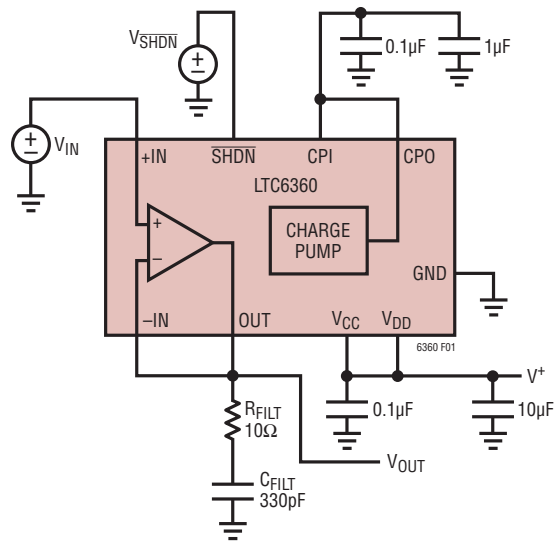

Figure 1. Test Circuit
**ELECTRICAL CHARACTERISTICS** The ● denotes the specifications which apply over the full operating temperature range, otherwise specifications are at  $T_A = 25^\circ\text{C}$ . Unless noted otherwise,  $V_{CC} = V_{DD} = 5\text{V}$ ,  $V_{+IN} = 2\text{V}$ ,  $V_{SHDN} = 5\text{V}$ . See Figure 1 for circuit configuration.
## TYPICAL PERFORMANCE CHARACTERISTICS $T_A = 25^{\circ}\text{C}$ , $V_{\text{CC}} = V_{\text{DD}} = 5\text{V}$ , $V_{+\text{IN}} = 2\text{V}$ , $V_{\text{SHDN}} = 5\text{V}$ , see Figure 1 for circuit configuration.
## TYPICAL PERFORMANCE CHARACTERISTICS $T_A = 25^\circ\text{C}$ , $V_{CC} = V_{DD} = 5\text{V}$ , $V_{+IN} = 2\text{V}$ , $V_{SHDN} = 5\text{V}$ , see Figure 1 for circuit configuration.
**TYPICAL PERFORMANCE CHARACTERISTICS**  $T_A = 25^\circ\text{C}$ ,  $V_{CC} = V_{DD} = 5\text{V}$ ,  $V_{+IN} = 2\text{V}$ ,  $V_{SHDN} = 5\text{V}$ , see Figure 1 for circuit configuration.